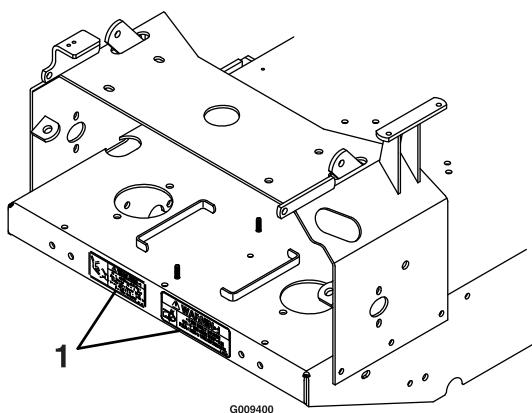

Figure 7
- d. Apply the two replacement decals to the engine deck between the mounting holes (see Figure 7).